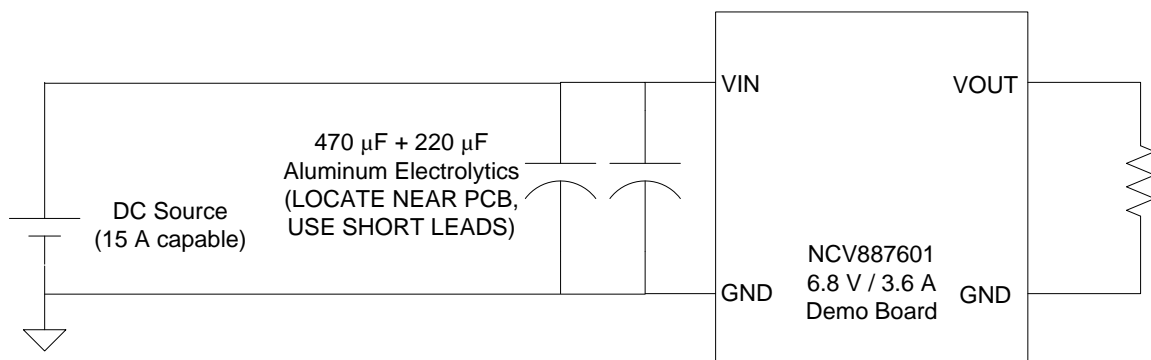

Figure 1. Demo Board Connections
1. Connect a DC source voltage (15 A capable) set to a voltage of 8.5-9.0 V as shown in Fig. 1.